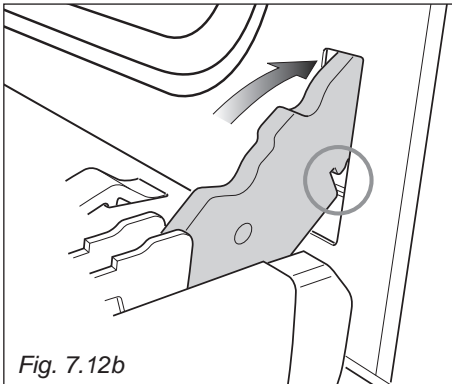

Fig. 7.12b
- Insert the hinge tongues into the slots, making sure that the groove drops into place as shown in the fig. 7.12b.